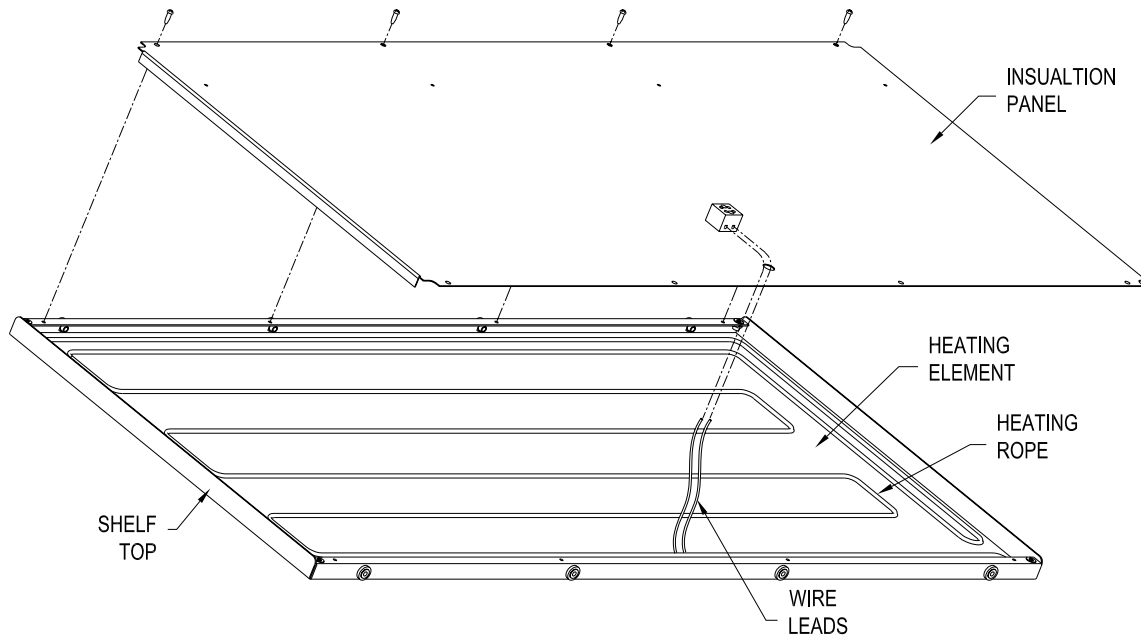

Figure 19. Shelf Heating Element
7. Remove the screws attaching the front of the insulation panel to the shelf top (see Figure 19). Set the insulation panel and the insulation aside.